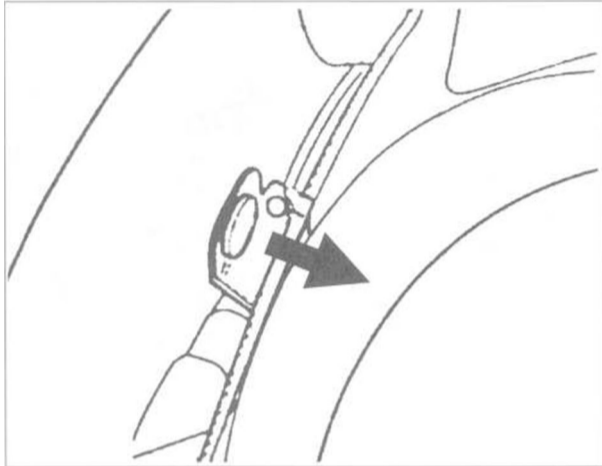

Fig. 10. Remove retaining clip and remove holder (**arrow**).
4. Loosen wire wrap. Remove bracket clip towards the inside and remove holder. See Fig. 10.